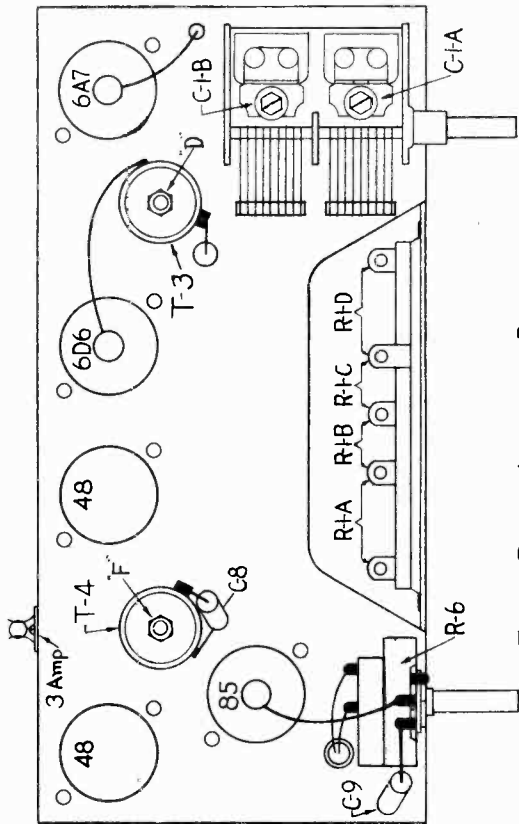
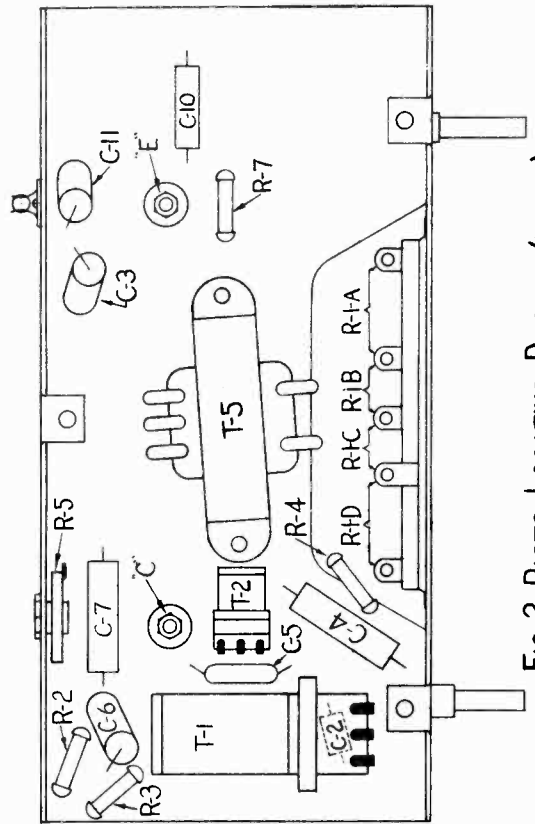

FIG. 2 PARTS LOCATING DIAGRAM (TOP)
FIG. 3 PARTS LOCATING DIAGRAM (BOTTOM)
The R-5 resistor shown on figure 3 is a cathode bias resistor variable from 50 to 200 ohms. This resistor controls the residual bias on the 6A7 and 6D6 tubes and must be carefully adjusted. This may be accomplished by tuning the set to an extremely weak station and adjusting R-5 for maximum volume in the speaker.
- (d) Peak the I.F. trimmer located on the top of the 1st I.F. Coil, designated as "D" on figure 3. Then peak the trimmer located on the bottom of the same coil designated as "C" on figure 2. Due to the detuning effect the primary winding exerts over the secondary, it will then be necessary to reset trimmer "D" for maximum output.
- (e) Peak the I.F. trimmer located on the top of the 2nd I.F. coil, designated as "F" on figure 3. Then peak the trimmer located on the bottom of the same coil designated as "E" on figure 2. Then reset trimmer "F" on top of the coil making all adjustments for maximum output.
- (c) Peak the oscillator trimmer condenser shown as C-1-B on figure 2 until the oscillator output can be heard in the speaker. Then the trimmer C-1-A located on the adjacent section of the gang condenser, making all adjustments for maximum deflection on the output meter scale.